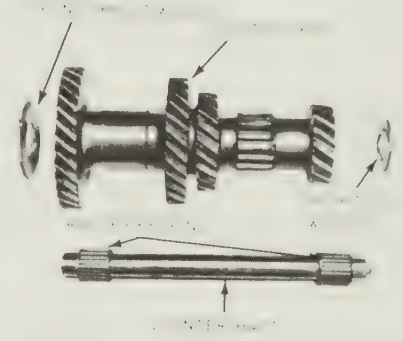

Fig. 6.6. Countershaft gear assembly (Secs. 3, 4 and 7)
- 16 Using a drift of a suitable diameter, carefully drive out the countershaft from the front of the casing and then lift out the countershaft gear cluster, roller bearings, plain and thrust washers up through the top of the casing (Fig. 6.6).